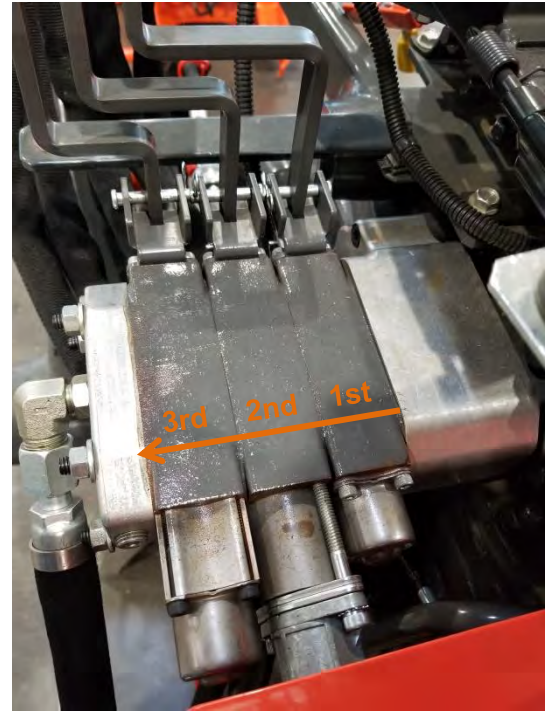

Figure 9: Valve position reference
13. Once all three valves and lever guide are in place, slide the outlet block on the remaining end of the studs, and use the washers and nuts provided in the stud kit to clamp the valves together. (Fig. 9) Tighten the nuts to 18 ft-lbs.